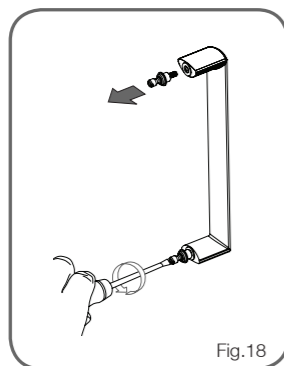

Fig.18
2. Unscrew the brass fixing boss from the handle (See Fig.18). Take care with the plastic washers.